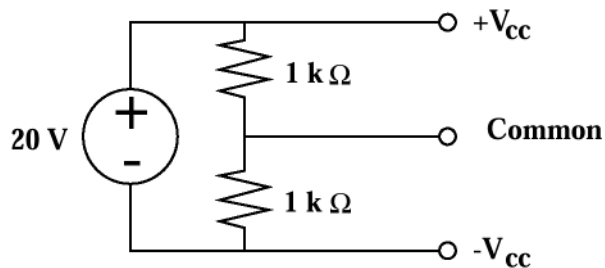

Figure 1: Split Power Supply
1. Build the split power supply shown in Figure 1. **The center tap (common) will be used as ground for the entire receiver circuit.**